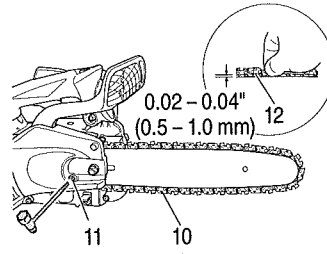

Fig. 6
7. Raise the bar end, and tighten the saw chain (10) by turning the tension adjustment bolt (11) clockwise. To check proper tension, lightly lift up the center of chain and there should be about 0.02 - 0.04" (0.5 - 1.0 mm) clearance between bar and edge of drive link (12). (Fig. 6, 7)